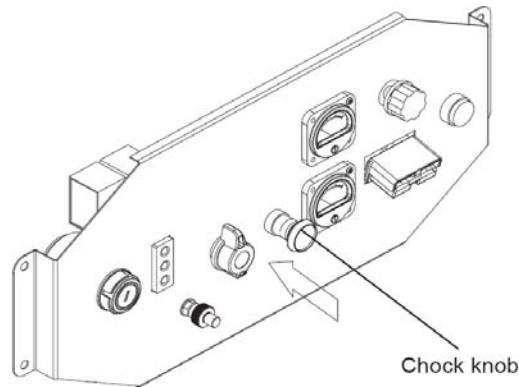

Fig.12 The open position of Choke knob
(5) Push the choke knob to the OPEN position as the engine warms up, see Fig. 12.